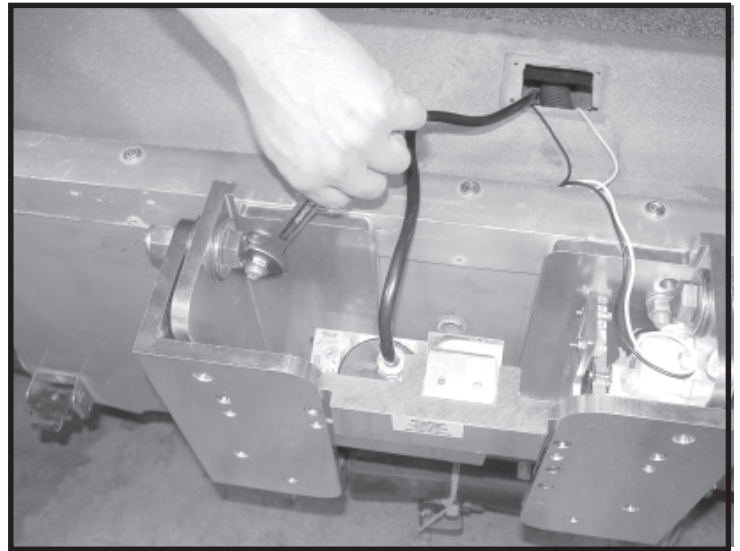

FIG. 4
Step 5: Mount the PT-130 unit on boat transom by use of four predrilled holes in transom of boat (for standard B.I.A. motors). (Fig 4.) Mount the tilt high enough for clearance of motor and transom when fully tilted. If a motor with transom clamps was previously mounted to boat, use the PT-130 transom side as a template and drill holes through the transom accordingly.